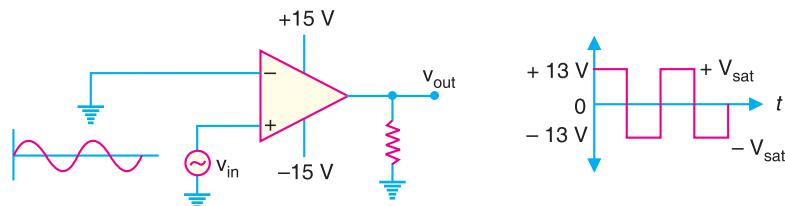

Fig. 25.94
1. As a square wave generator. A comparator can be used to produce a square wave output from a sine wave input. Fig. 25.94 shows the circuit of a comparator to produce square wave output. Note that inverting terminal (-) is grounded and signal (v_{in}) is applied to the noninverting terminal (+). Since the gain of a comparator is equal to A_{OL} , virtually any difference voltage at the inputs will cause the output to go to one of the voltage extremes ($+V_{sat}$ or $-V_{sat}$) and stay there until the voltage difference is removed. The polarity of the input difference voltage will determine to which extreme ($+V_{sat}$ or $-V_{sat}$) the output of the comparator goes.